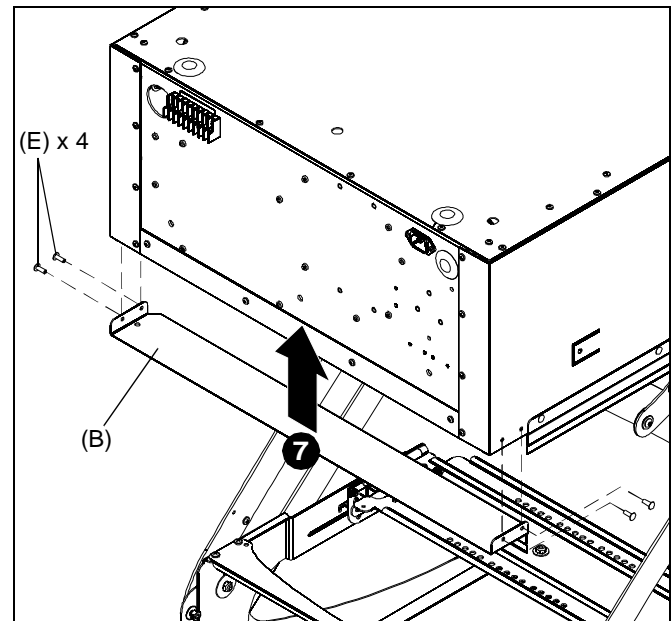

Figure 4
7. Place rear trim (B) under back of SL-236, raise into place, and secure with rivets (E). (See Figure 4)